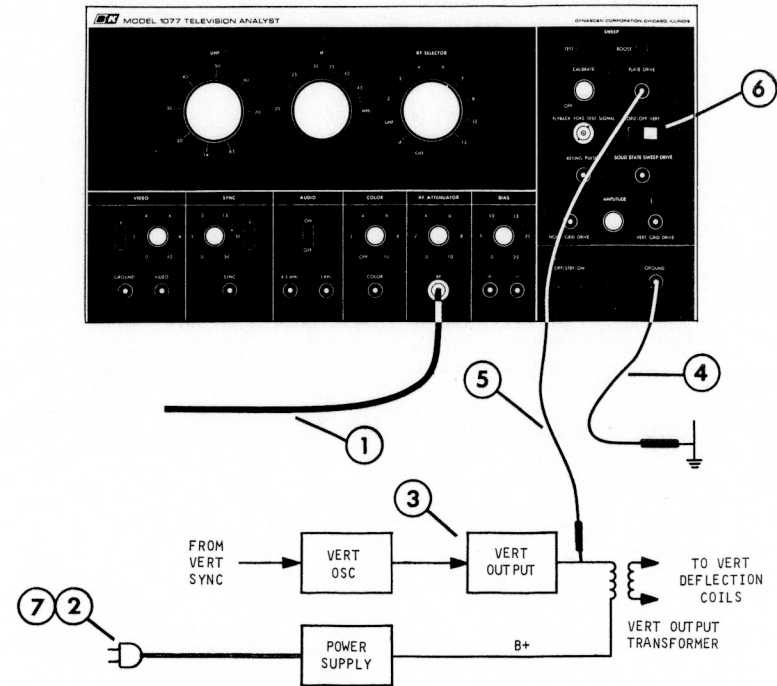

Figure 26. Connections for Vertical Plate Drive Signal
K. VERTICAL PLATE DRIVE SIGNAL (See Figure 26)